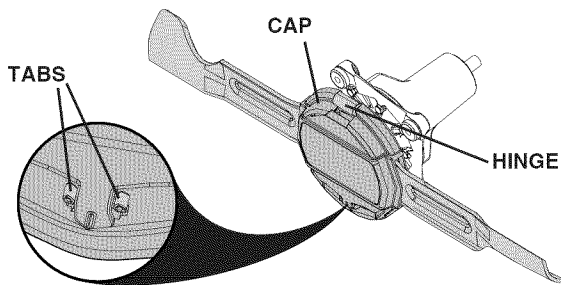

Fig. 15
BLADE REPLACEMENT (See Figs. 15 - 20)
- Squeeze tabs inward to release cap. Remove by lifting cap from hinge and set aside. (See Fig. 15.)